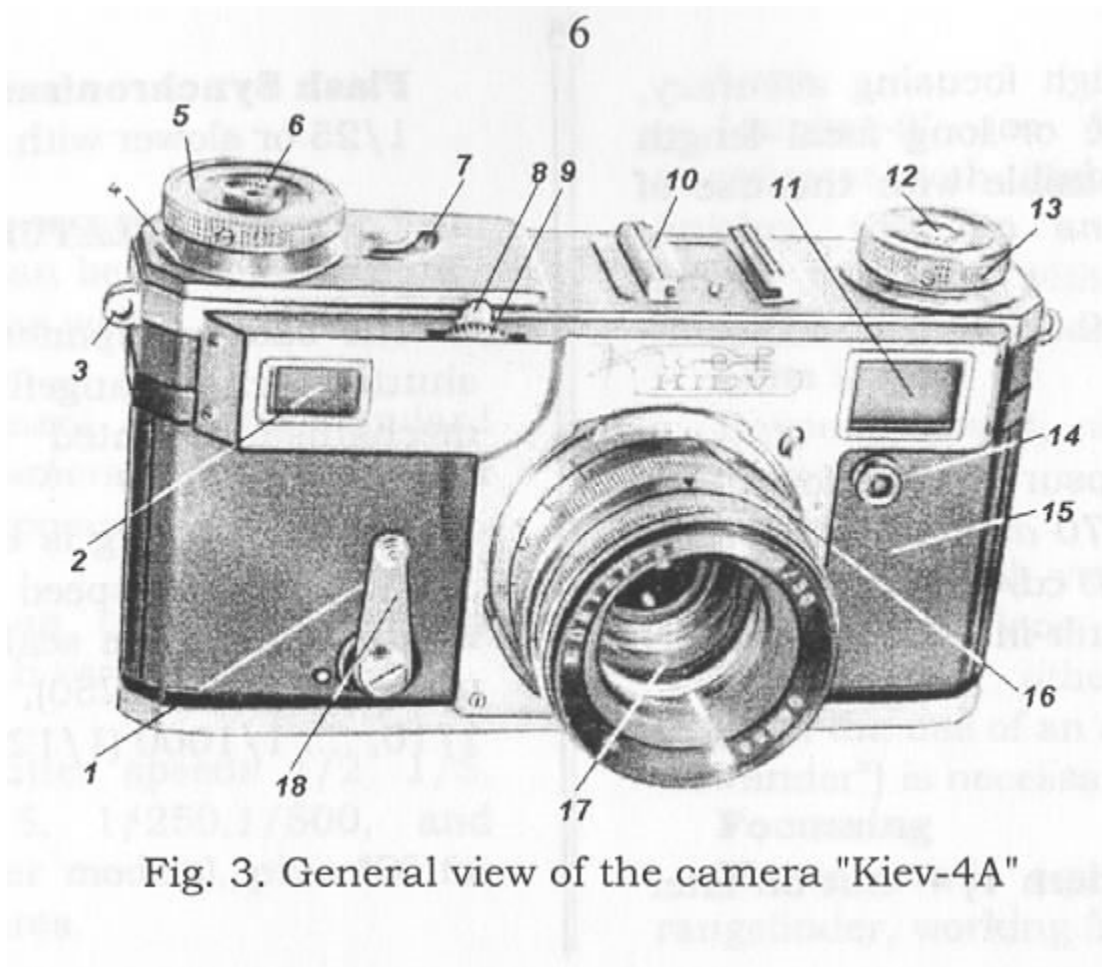

Fig. 3. General view of the camera "Kiev-4A"
The basic components of the camera (fig. 3) are: shutter, lens, rangefinder, viewfinder, self-timer mechanism mounted on the body, and removable back cover.
The self-timer mechanism is located inside the camera body. It is started by the lever 13. Also shown in fig 3 are: 3- camera strap eyelet; 14 - flash PC cord outlet.
Turn the advance knob 5 clockwise (fig. 3)
Adjusting the rangefinder image and focusing are made simultaneously by turning the movable part of the gear focus wheel (fig. 3)
The shutter is fired by pressing the shutter release button (6) (fig.3).
Turn the lever (18) (fig. 3) counter clockwise against the stop (fig. 16).